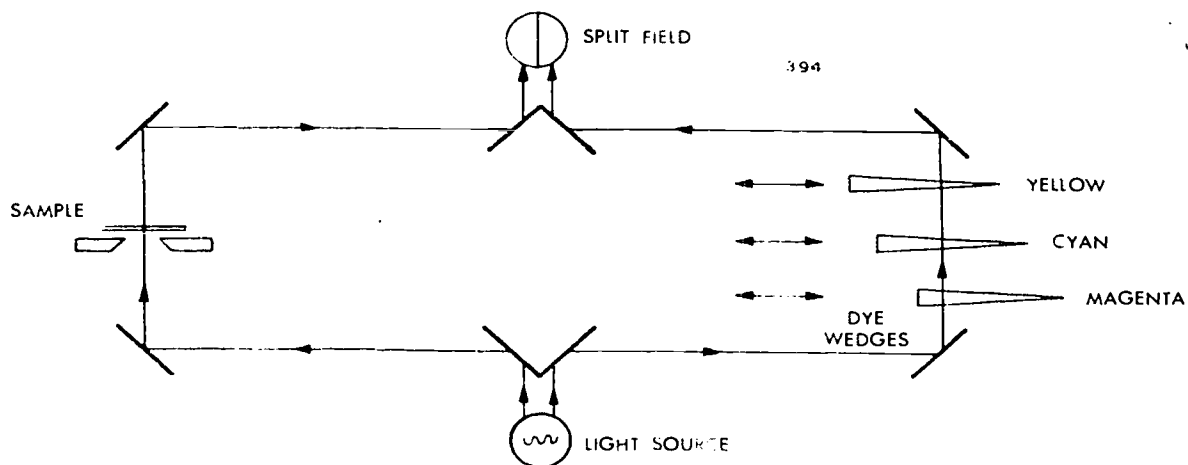

Figure 4-8. Schematic of an analytical densitometer.
Analytical Densitometers. The operation of the analytical color densitometer is based on the principle that the absorption of the dyes in the film sample can be matched by the absorption of some combination of the three wedges, each of which contains varying known amounts of the dyes that comprise the sample. Figure 4-8 illustrates this principle. In the figure, the beam of light on the left passes through the sample, whereas the beam on the right must pass through the three wedges. Only when the absorption of the combined wedges equals that of the sample will the two sides of the split-field match. By determining the amount of absorption of each wedge, you can make a quantitative analysis of the color content of the sample. This type of instrument is also used to determine equivalent neutral densities.
2. Refer to Figure 4-8. Where does the light pass through on the left and right of the figure?